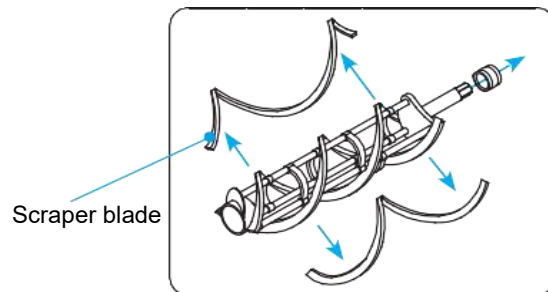
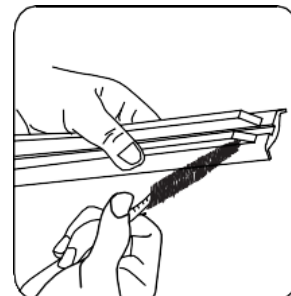

Figure 58
Figure 59
3. Disassemble the beater assembly: Remove scraper blades (Figure 58) and wash all the parts using an approved cleaning detergent and brushes in the kit provided (Figure 59). Wipe all parts with a soft cloth and lay them out to dry overnight.